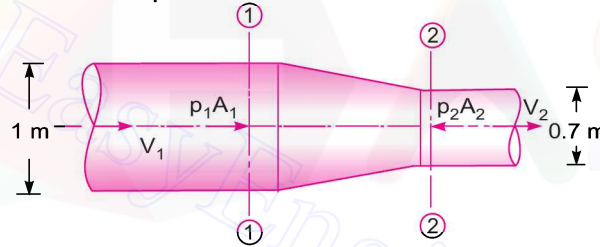

Fig. 6.27
**Problem 6.35** The diameter of a pipe gradually reduces from 1 m to 0.7 m as shown in Fig. 6.27. The pressure intensity at the centre-line of 1 m section 7.848 kN/m2 and rate of flow of water through the pipe is 600 litres/s. Find the intensity of pressure at the centre-line of 0.7 m section. Also determine the force exerted by flowing water on transition of the pipe.